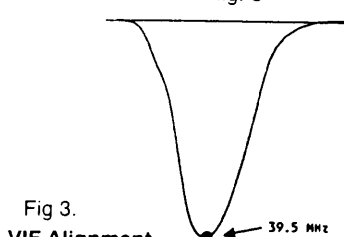

Fig 3.
#### Alignment Step (see fig. 3)
- Adjust T104 (TANK COIL) to obtain maximum amplitude of response at 39.5MHz as in fig. 3